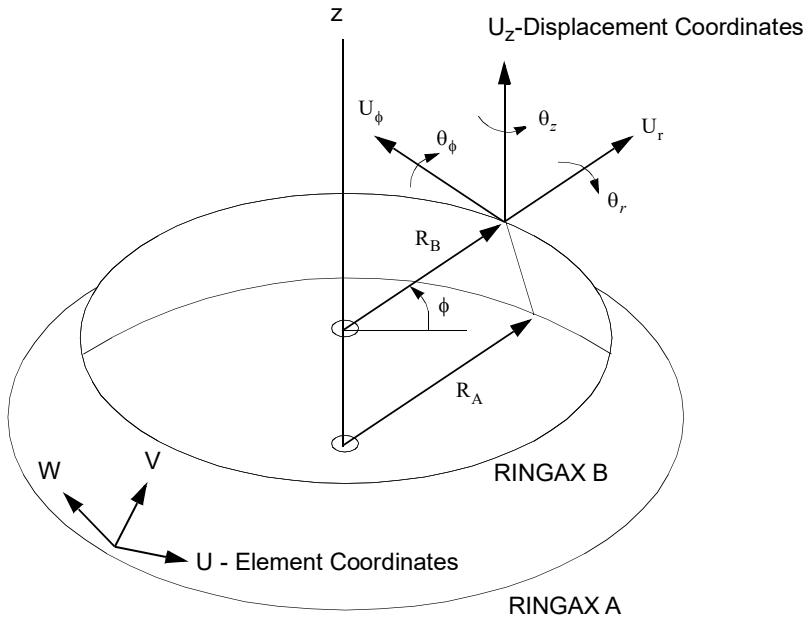

Figure 9-152 RINGAX Coordinate System
5. Constraints may be necessary to avoid matrix singularities. The CONEAX element has no stiffness for rotation about the normal. In addition, there is no stiffness for rotation about V (see Figure 9-152) when transverse shear flexibility is not included.